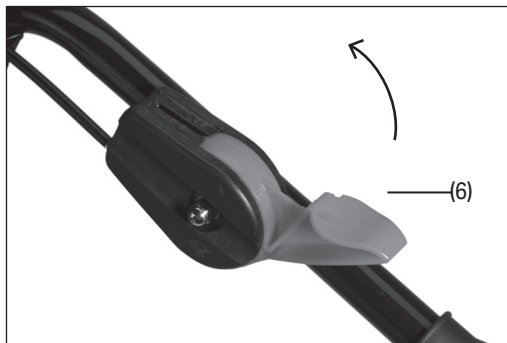

Fig. 17
2. Push the engine control lever (6) upwards slightly to open the throttle (Fig. 17).